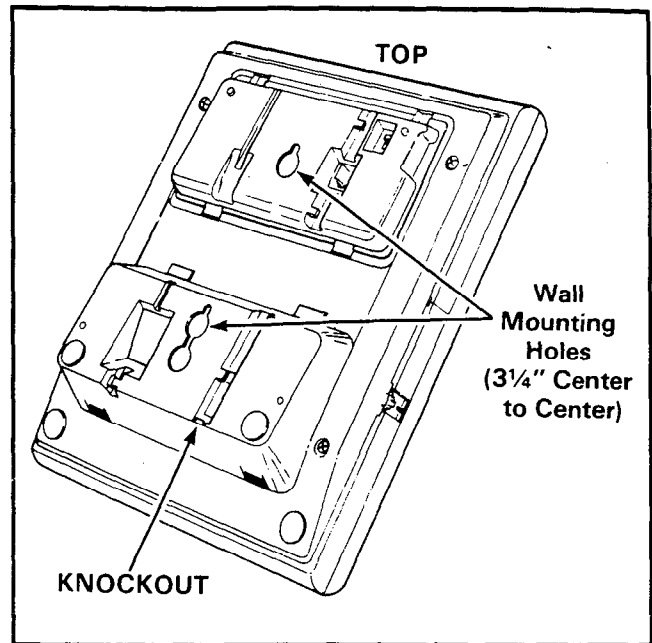

FIGURE 27—EKT WIRE ACCESS
07.14 Refer to Figure 27, choose which of the knockouts are appropriate for the tail cord route, and then cut them out.
07.15 Secure the unit to the desired wall site. (Use dimensions shown in Figure 27 to position the unit.)